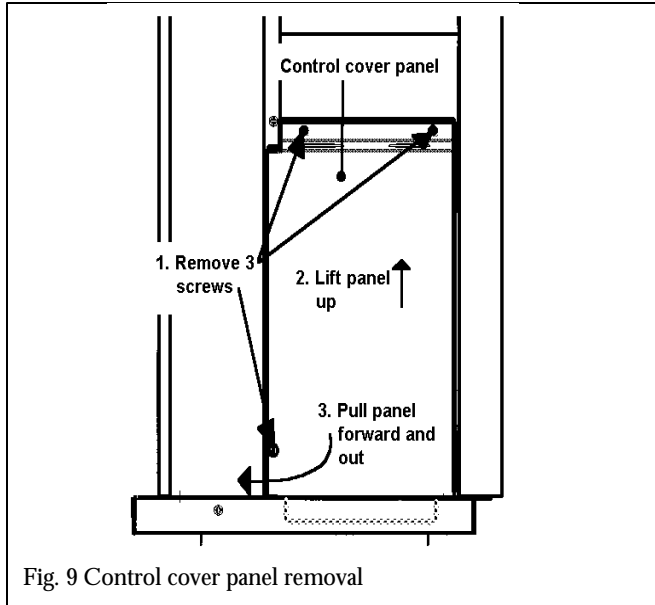

Fig. 9 Control cover panel removal
- 10.3 Detach the control cover panel (see figure 9):-